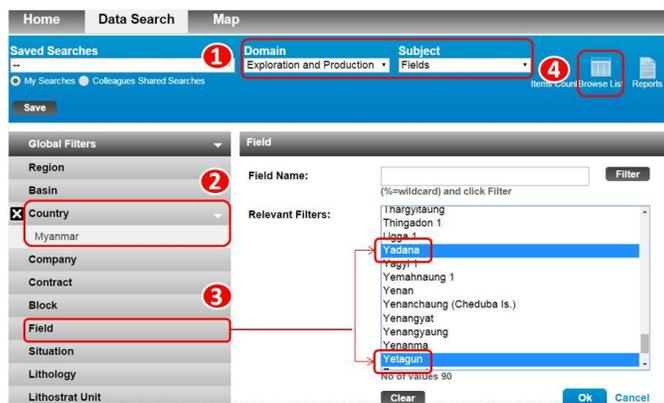

Fig 3-1: Workflow to Search Fields in Country
- (1) Login to **EDIN** and **Start A New Data Search**. Set Domain and Subject (Fig 3-1).
- (2) Set **Country** as Myanmar.
- (3) Find and choose fields by name and click OK.
- (4) Click **Browse List** icon to view field detailed info.